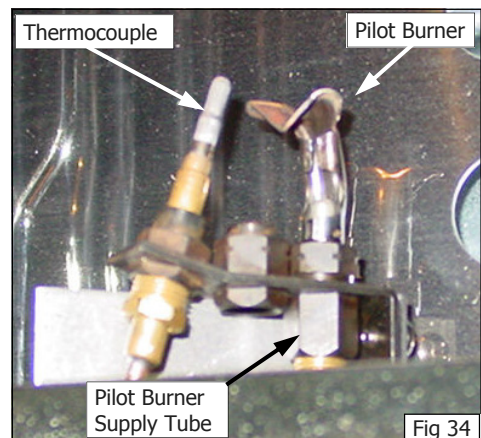

Fig 34
- From inside the oven, unscrew the hex nut holding the pilot supply tube to the rear of the pilot burner. (Refer to Fig 34).
- Replace the pilot injector with the correct sized pilot injector for the gas type being used (Refer to the 'Gas Specifications' table at the rear of this section) and re-connect the pilot supply tube to the rear of the pilot burner. (Refer to Fig 34).